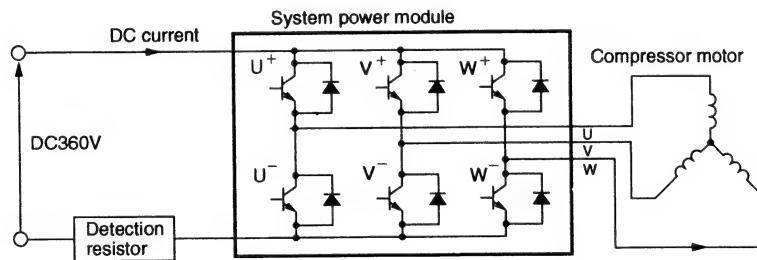

Fig. 8-6
- (1) As shown in Fig. 8-6, U+ and V- transistors on power module are turned on to apply current to winding of motor.